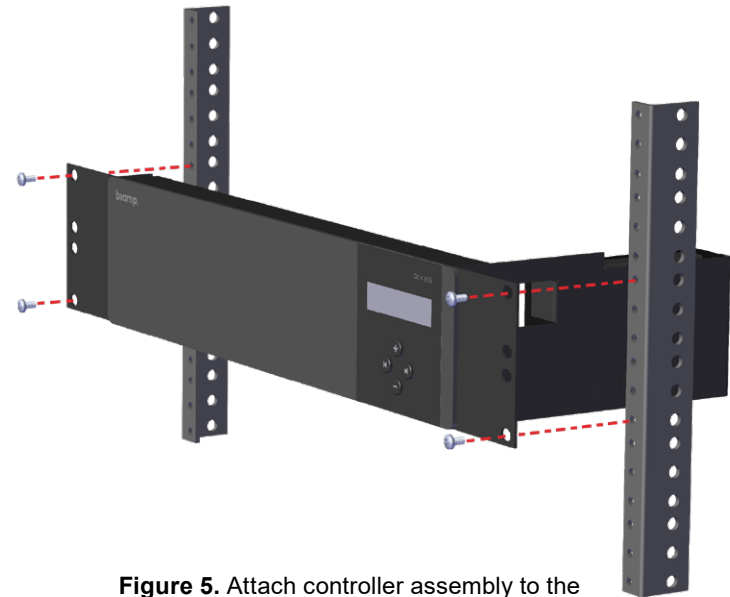

Figure 5. Attach controller assembly to the rack (hardware not provided)
5. Secure the Qt X controller to the rack via the rack ears as shown (Figure 5). Hardware to attach the unit to the rack is not included. Plug power cord into the rear of the power supply.